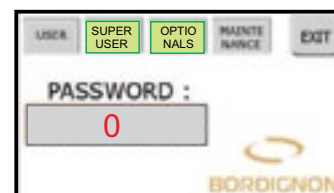
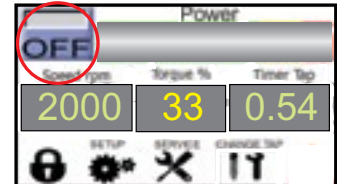
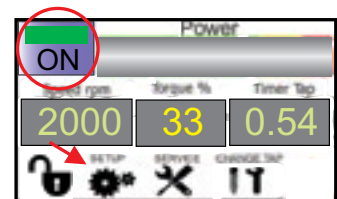

FIG. 4
FIG. 6
FIG. 7
The touch screen on the panel may display a locked or unlocked padlock (FIG. 6). By pressing on this symbol the operator will see a page designed to enter passwords which allow access to some functions (FIG. 4).
USER, SUPER USER, OPTIONALS and MAINTENANCE boxes (FIG. 4) will change colour from grey to green according to the entered password and enabled functions. See following TABLE 1.
4. Turn the machine on by pressing OFF (FIG. 6). Wait a few seconds until the hourglass disappears and the display shows "ON" (FIG. 7).
5. Check that the padlock has been unlocked (FIG. 7). To unlock it, see instructions on page 4;
7. Press "SET UP" (FIG. 7);
The "Torque %" value displayed on the panel touch screen (FIG. 7) during the threading process, depends on the absorption of current during the thread performing. This is a very useful parameter for controlling the threading process: an anomalous absorption of current means that the unit is not working at its best.